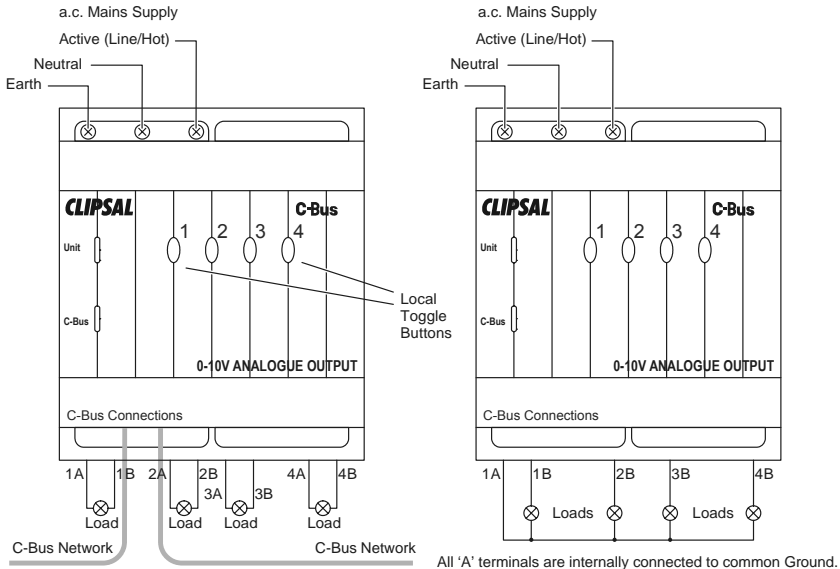

Figure 1 – L5504AMP and LE5504TAMP Wiring
- The ballast control lines should be connected in one of the two ways shown in Figure 1. You can connect multiple ballasts to a control line so long as the channel rating is not exceeded. Refer to Specifications (Section 17.0).